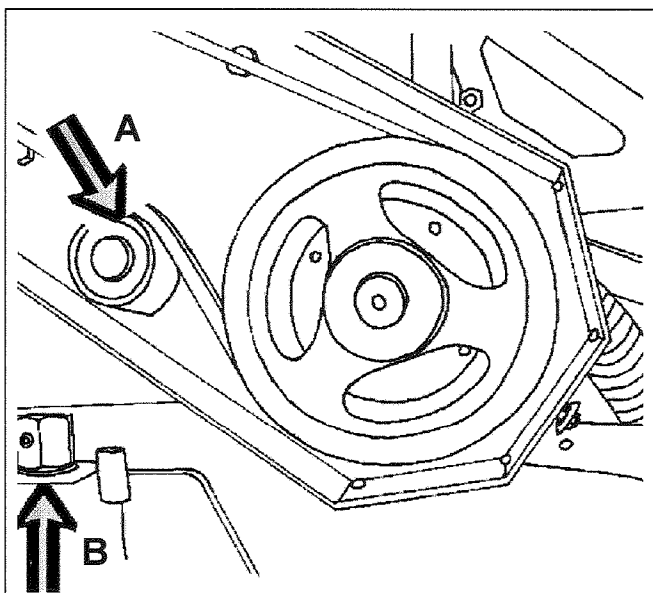

Figure 2G. Tension roller.
On safety grounds, marker arms should always be locked in position when driving on public roads. Locking is carried out using lock fittings which are mounted on the locking pin and secured with the ring pin. See figure 2G.
See fig. 2G.(A)
See fig. 2G.(B)